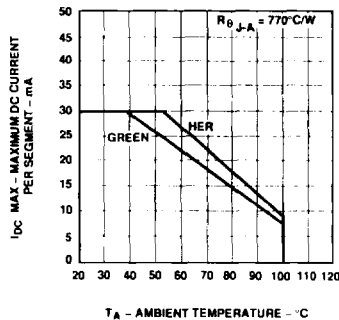

Figure 12. Maximum Allowable DC Current vs. Ambient Temperature.
7. Derate above 39°C at 0.37 mA/°C (see Figure 12).